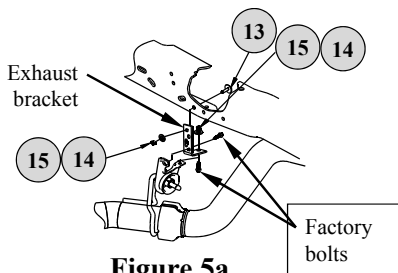

Figure 5a
- If there is less than 1/2" clearance between the exhaust pipe and the Hide-A-Goose cross members, the exhaust bracket supplied with the 4448 mounting kit must be used (See figure 5a and 5b). For the rear attachment (Figure 5a), fasten the supplied bracket extension to the factory bracket with the factory M8 bolts, then fasten the extension to the frame with the supplied hardware. Reattach the exhaust bracket forward of the axle to the frame cross member with 3/8" spacers sandwiched between the bracket and cross member.